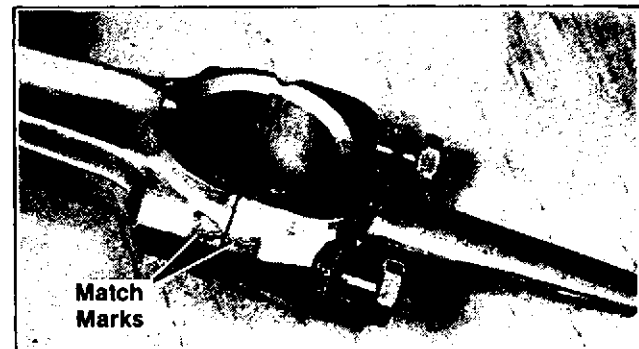

Figure 8-10. Connecting Rod Match Marks
4. It is important that match marks on connecting rod and cap line up. Align connecting rod on crank journal so that oil hole at the base of the rod dipper faces the camshaft (see Figure 8-10).